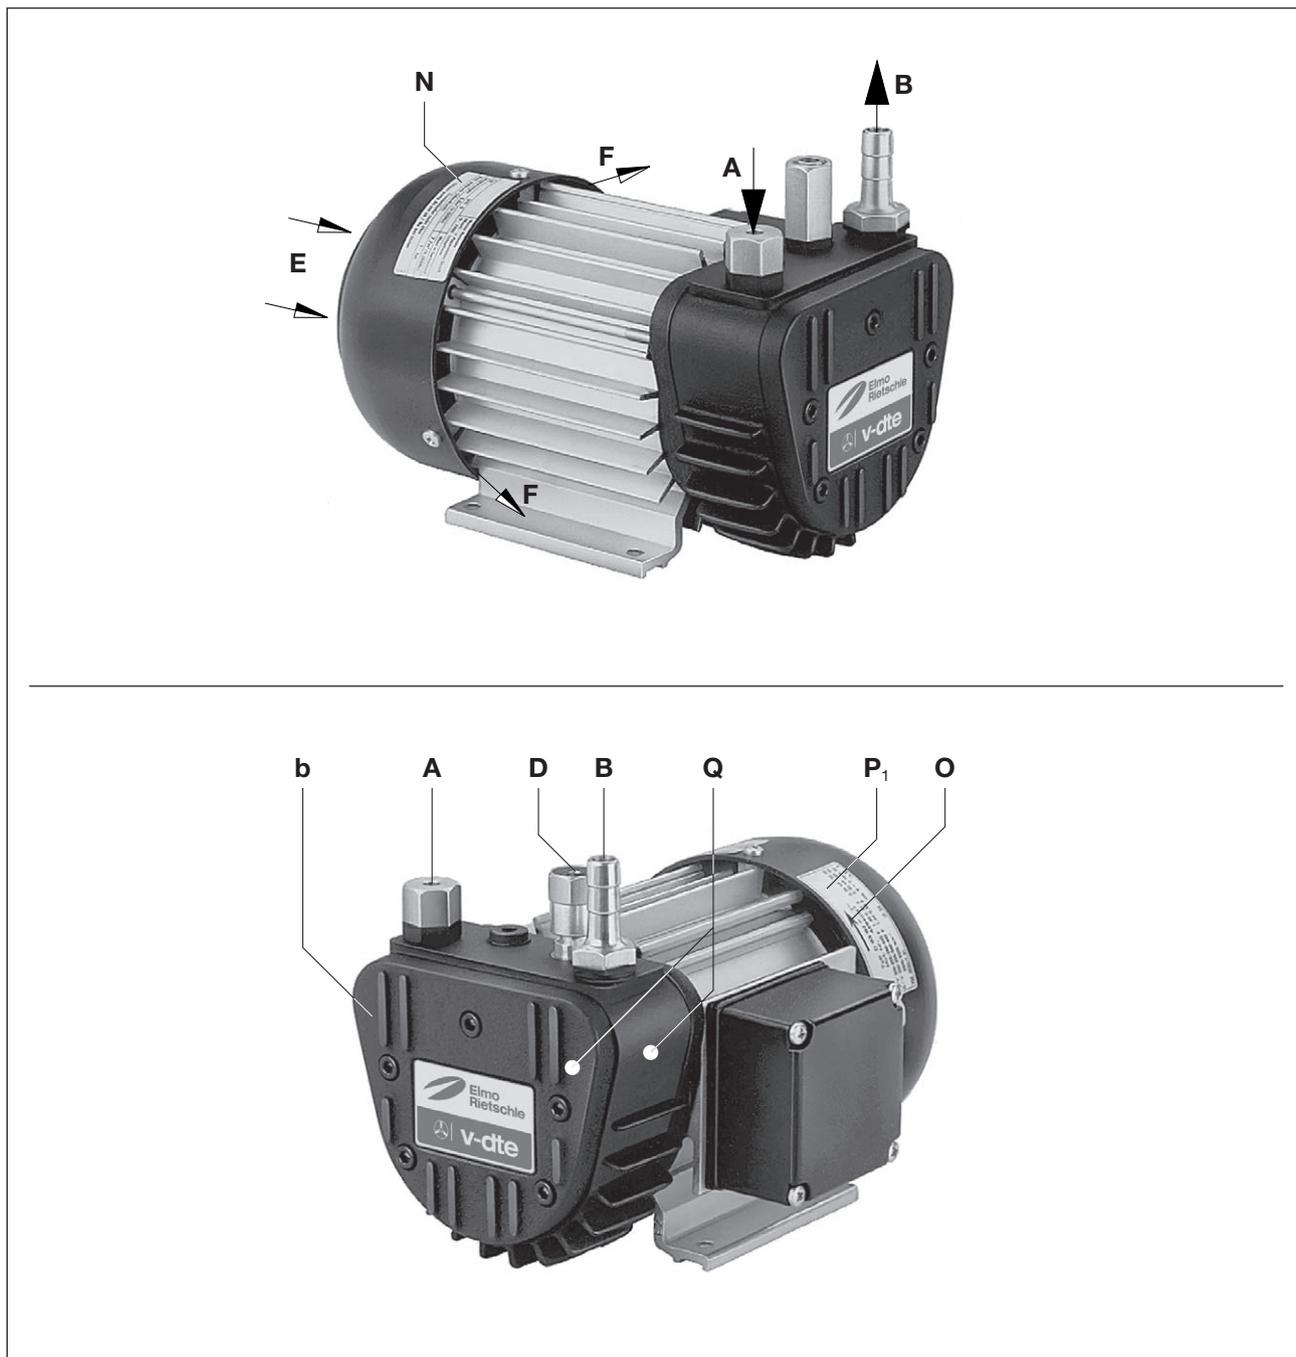

Fig. 1 V-DTE compressor
A pressure limitation valve (Fig. 1/D) is fitted as standard.
These dry running rotary vane compressors, V-DTE 3 to V-DTE 10, are suitable for creating excess pressure between 0 and the maximum limit (in bars) given on the data plate (Fig. 1/N). Constant operation is permissible.
There must be a minimum space of 20 cm in front of the housing cover (Fig. 1/b) for servicing. The cooling air entries (Fig. 1/E) and the cooling air exits (Fig. 1/F) must have a minimum distance of 8 cm from any obstruction. The discharged cooling air must not be recirculated.
- a) The electrical motor data can be found on the data plate (Fig. 1/N) or the motor data plate (Fig. 1/P₁). The motors comply with DIN EN 60034 and are in protection class IP 54 and insulation class F. The appropriate connection diagram is located in the motor's terminal box (not for the plug connection version). The motor data must be compared with the data of the existing mains network (current type, voltage, network frequency, permitted current value).
When the machine is at operating temperature the surface temperatures on the components (Fig. 1/ Q) may go above 70°C. You must avoid touching the hot surfaces (marked with warning plates).
▷ The drive shaft direction of rotation is shown by the rotation direction arrow (Fig. 1/O).